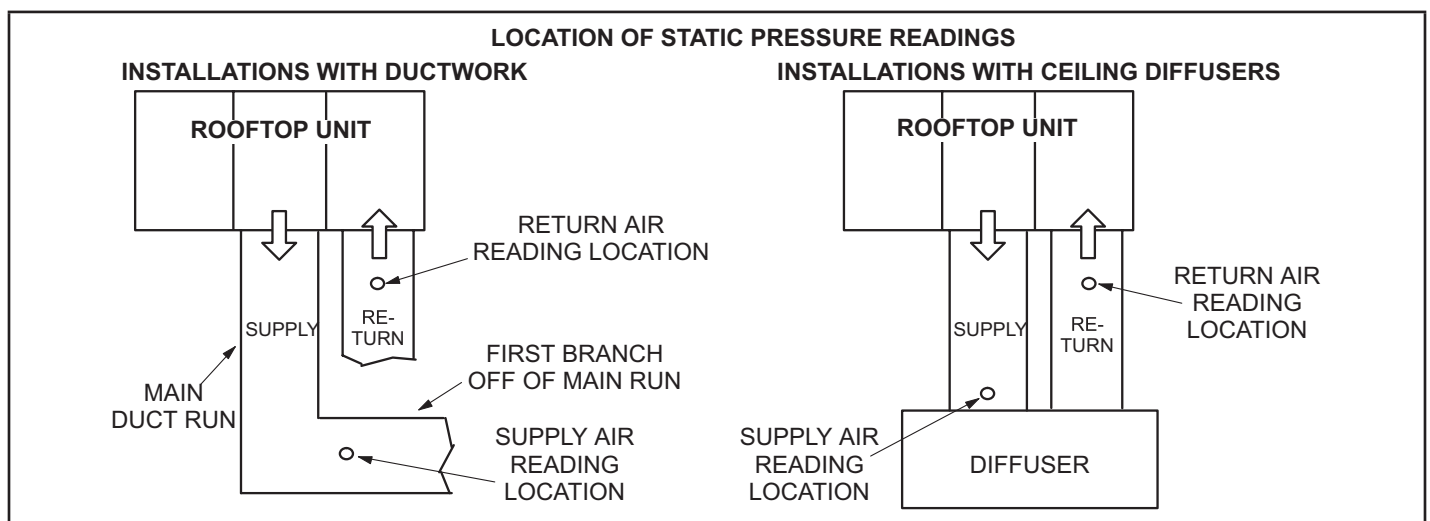

FIGURE 8
- 3 - With all access panels in place, measure static pressure external to unit (from supply to return). Blower performance data is based on static pressure readings taken in locations shown in FIGURE 8.